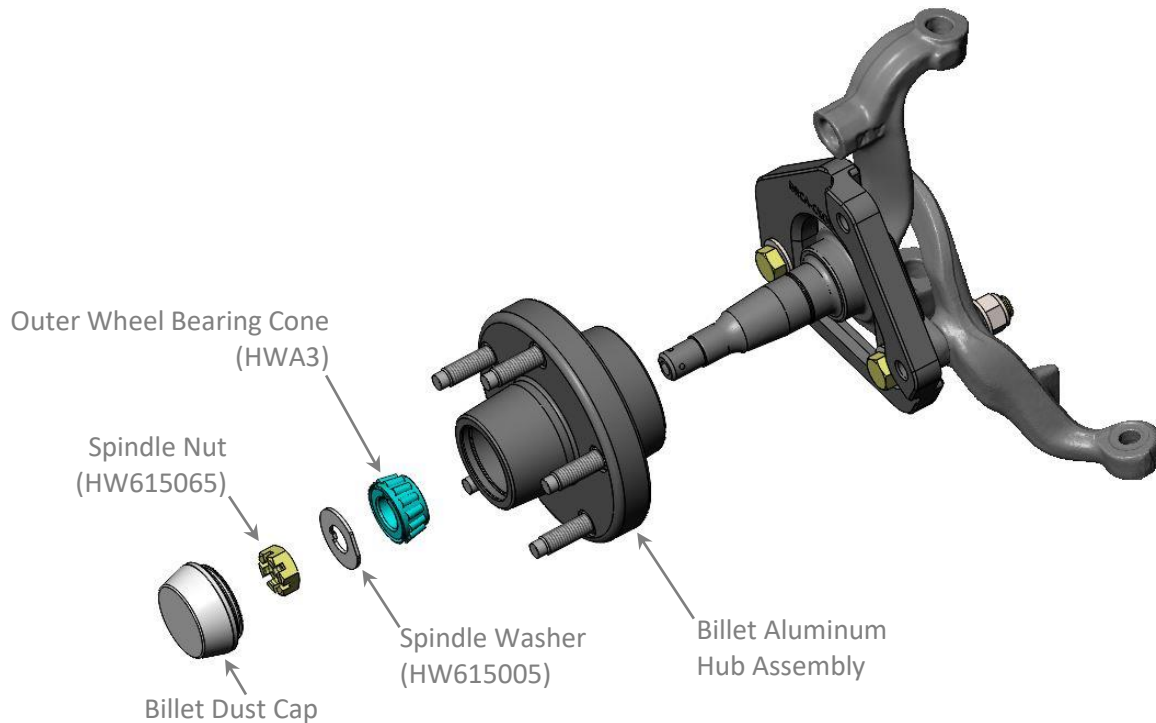

Figure 4 – Component Location (LH Shown)
- Slide the Billet Aluminum Hub onto the spindle. The inner wheel bearing and grease seal should be installed at this point. With the Billet Aluminum Hub fully pushed onto the spindle, install the outer wheel bearing followed by the spindle washer and spindle nut. When tightening the spindle nut, tighten to 5-10 ft/lbs. Loosen the nut and tighten again using the same 5-10 ft/lbs. Do this a couple of times spinning the rotor to fully seat the wheel bearings onto the spindle. Loosen the nut a final time and re-tighten to remove all play. Tighten approximately an additional 1/16th of a turn to give the appropriate pre-load and line up the cotter pin hole. Install the cotter pin to secure the nut followed by the Billet Aluminum Grease Cap. Figure 4 below shows the proper location of each component. **IMPORTANT: The Billet Aluminum Grease Caps are held in using rubber o-rings. Slightly lubricate o-ring with grease to help installation of the cap.**